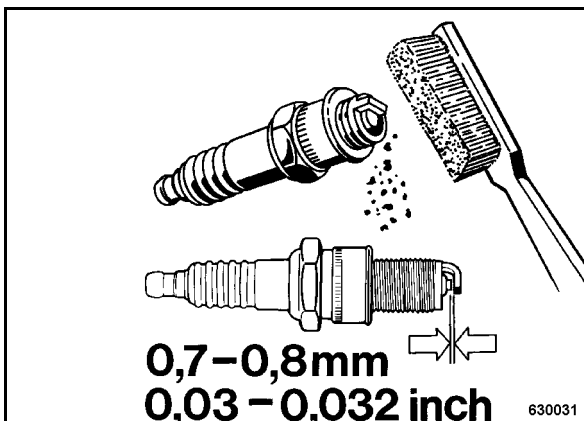

Fig. 44
- Check the spark plug visually and clean it if necessary (Fig. 44).